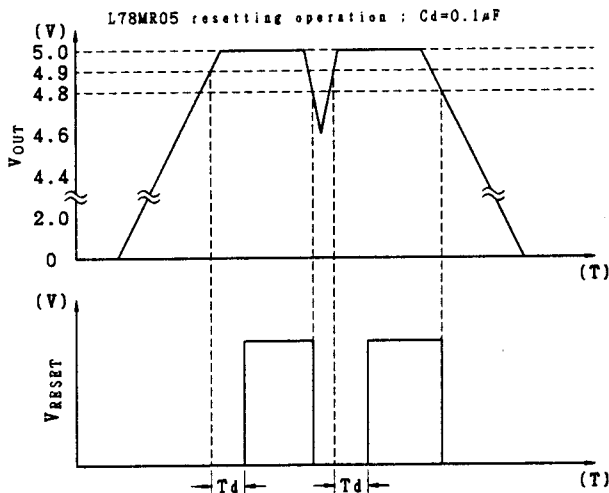

Figure 7
The microprocessor \overline{RES} input is set so the signal is applied slightly after the rising of VDD (power ON), and slightly before the trailing time (power OFF). This time lag is determined by C809 connected to IC pin ②. Figure 7 shows the timing diagram.